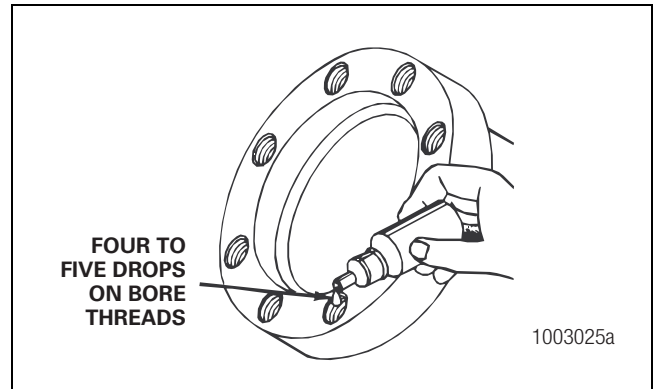

Figure 4.9
2. Apply four or five drops of Meritor liquid adhesive 2297-C-7049, Loctite® 638 or 680 liquid adhesive or equivalent inside each threaded hole or bore. Do not apply adhesive directly to the fastener threads. Figure 4.9.